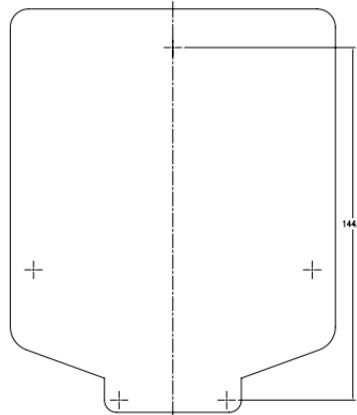

Figure 1: Use Mounting Template (included)
- Use the mounting template (included) to mark the mounting screw location on the wall. See *figure 1*